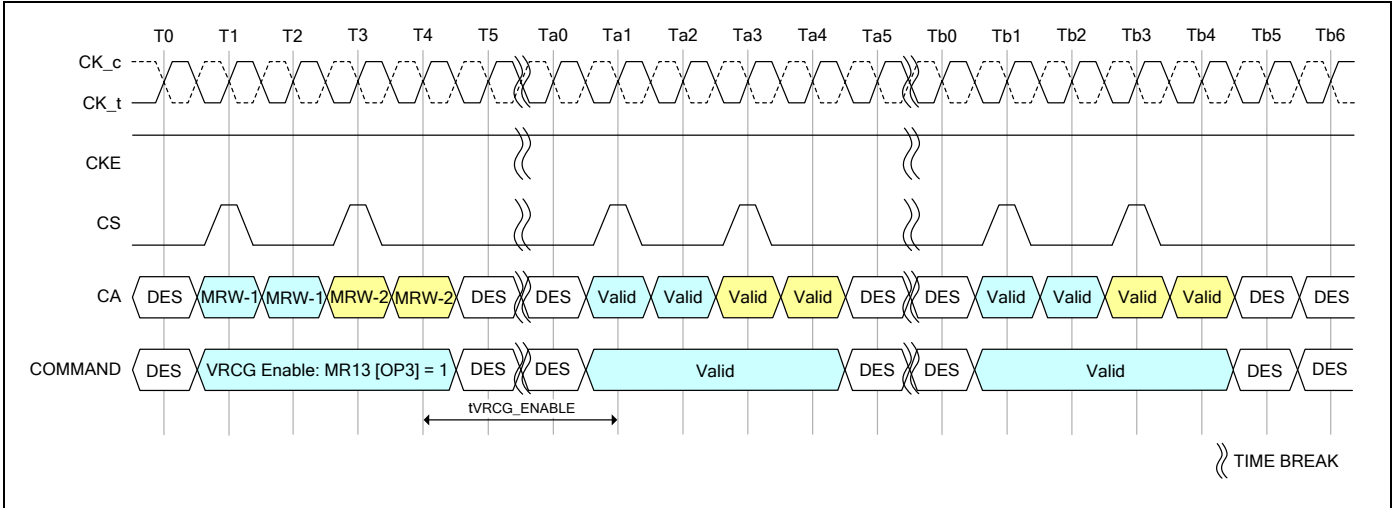

Figure 82 - VRCG Enable timing
LPDDR4X SDRAM VREF current generators (VRCG) incorporate a high current mode to reduce the settling time of the internal VREF(DQ) and VREF(CA) levels during training and when changing frequency set points during operation. The high current mode is enabled by setting MR13 OP[3] = 1. Only Deselect commands may be issued until tVRCG_ENABLE is satisfied. tVRCG_ENABLE timing is shown in Figure 82 and Table 48.